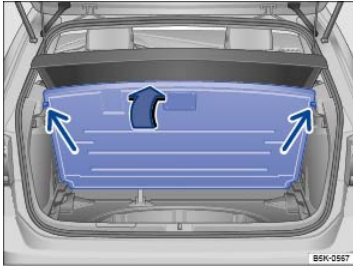

Fig. 157 In the luggage compartment: Luggage compartment floor raised and secured.
- Lift the luggage compartment floor and secure it in the stops on either side of the luggage compartment ⇒ Fig. 157 (small arrows).